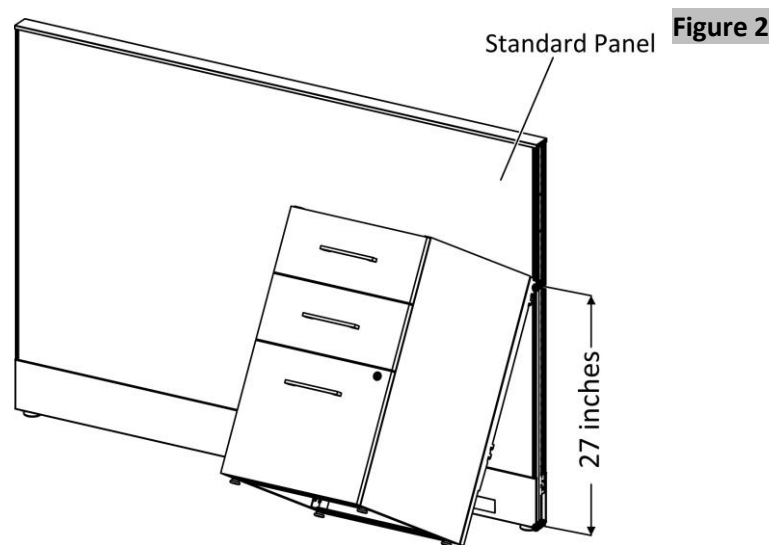

Figure 2
- Insert storage standard panel mount bracket by angling the pedestal at 30 degrees; place the support hook into the slotted frame channel, release it down and the support will be engaged, (Figure 2).